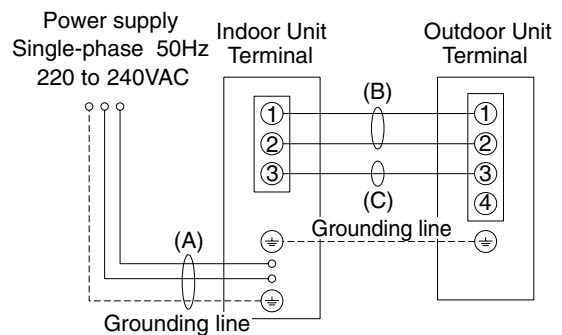

Fig. 6
Refer to the wiring system diagram (Fig. 6) for the meaning of (A), (B) and (C) in Table 2.